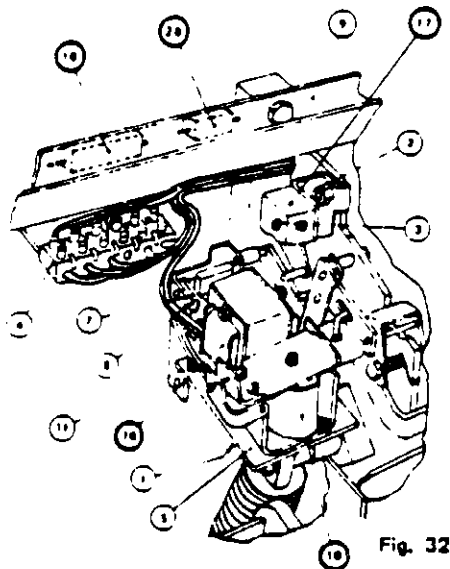

Fig. 32
- I. Closing Preventer (Fig. 32). The closing preventer (19) located directly behind the closing solenoid, may be removed by removing coil wires and two holddown bolts from base (5). When replacing closing preventer, make adjustments as described in Chapter IV, Undervoltage Lockout.